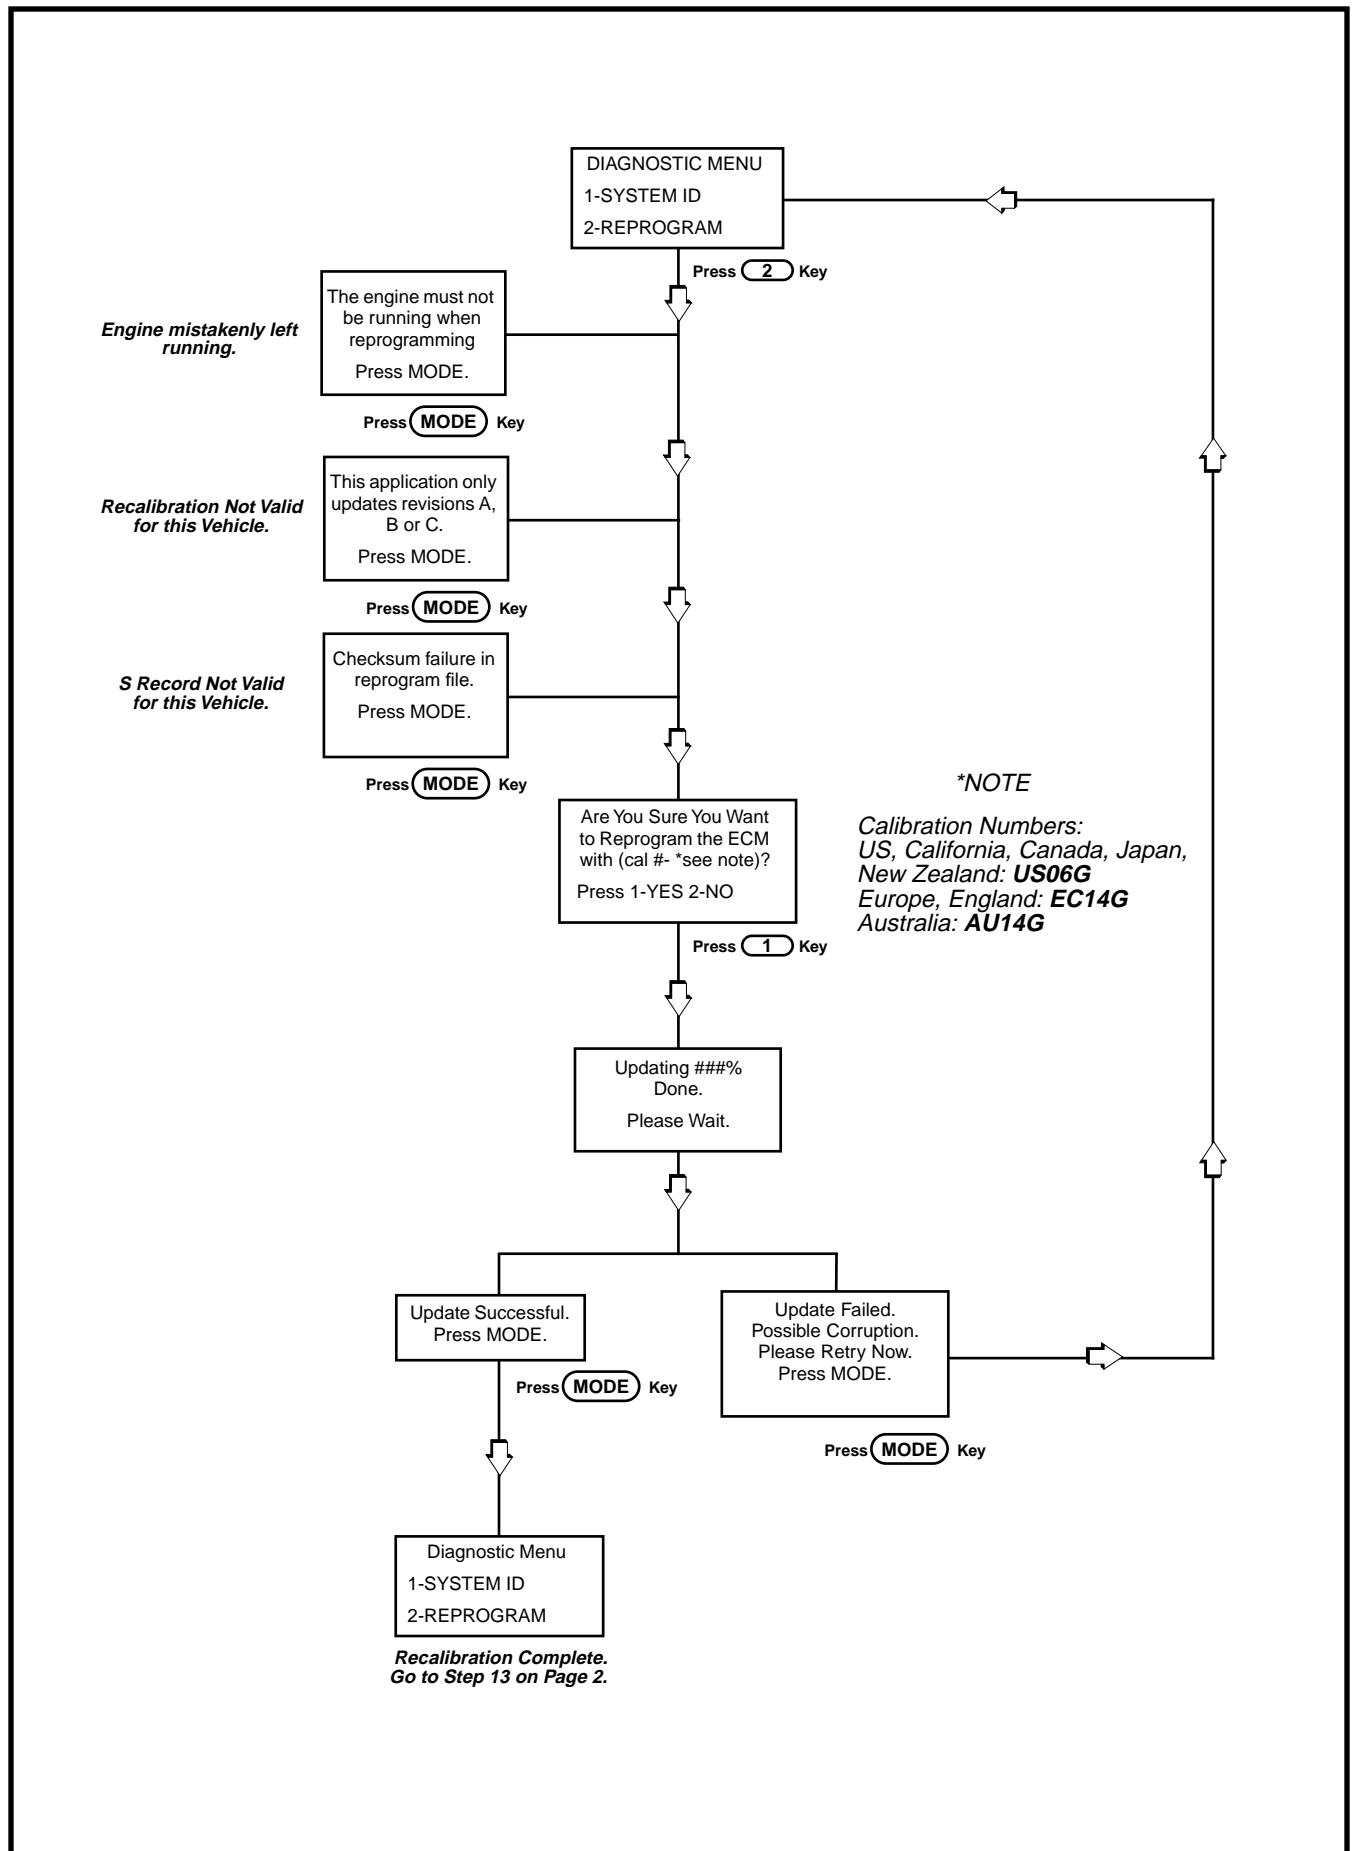

Figure 3. ECM Recalibration Routine
10. See Figure 3. From the Diagnostic Menu, press the number "1" key to view the software version code listed under the System ID. Verify that the software version code displayed on the scanalyzer matches the market codes listed below:
11. See Figure 3. Return to Diagnostic Menu of scanalyzer. From the Diagnostic Menu, press the number "2" key to begin reprogramming the ECM.